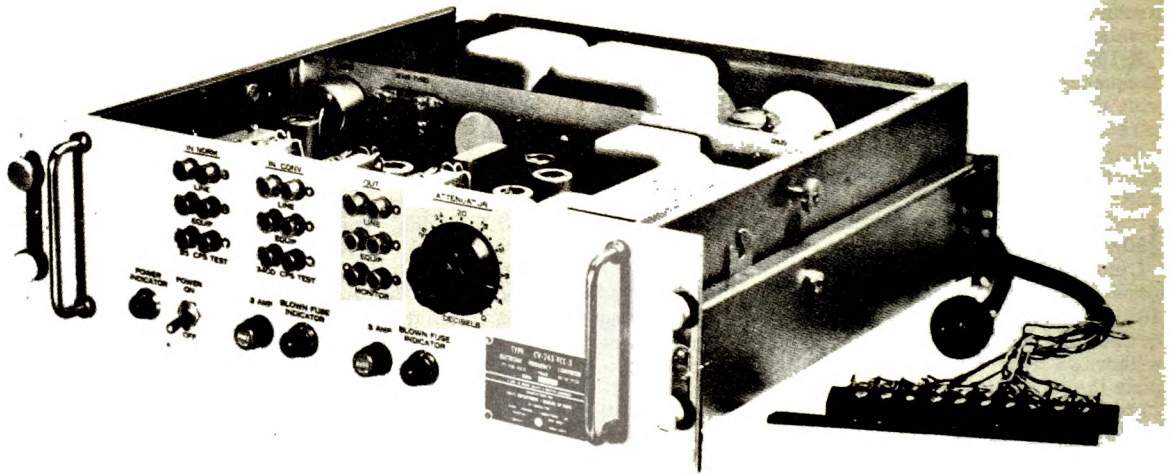

Figure 1-4. Electronic Frequency Converter CV-243/FCC-3, Identification of
d. ELECTRONIC FREQUENCY CONVERTER CV-243/FCC-3. (See figure 1-4.)—This unit provides the necessary facilities for accepting the output signals from eight narrow-band transmitters within a frequency spectrum of 382.5 cycles to 1675.5 cycles and trans-